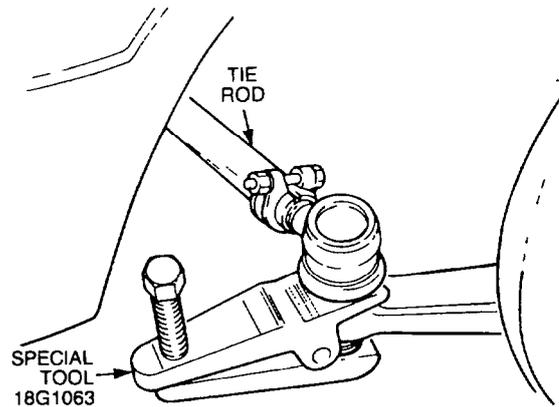

Figure 72 Tie Rod Removal
- j. Using special tool 18G1063, disconnect the tie rod ball joints at the steering arms (Figure 72).